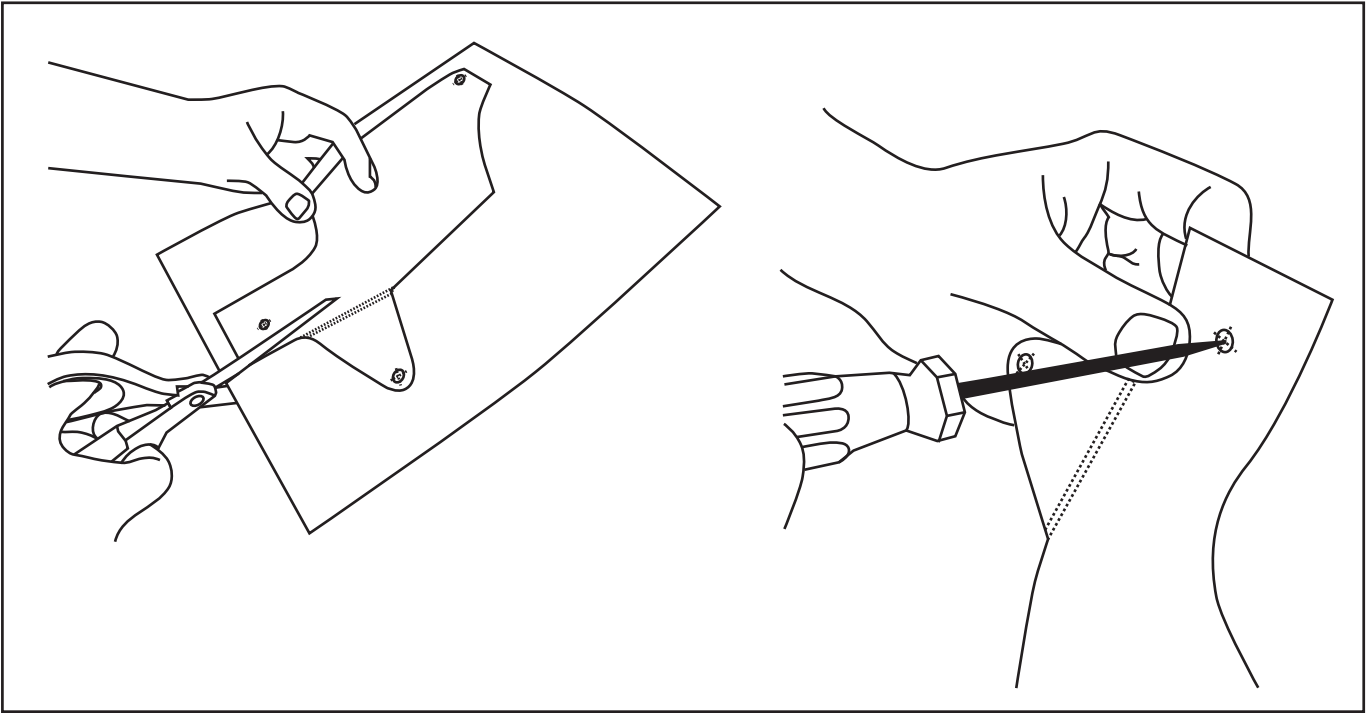

Fig. 4
5. Cut out templates and pre-punch holes in template with a metal pick tool (Fig. 4).